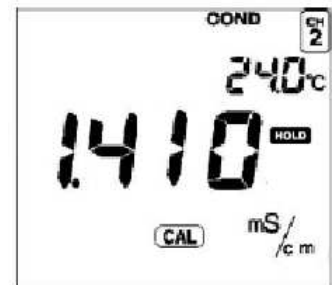

Figure 13
3. Press MODE to enter calibration mode (fig. 13).